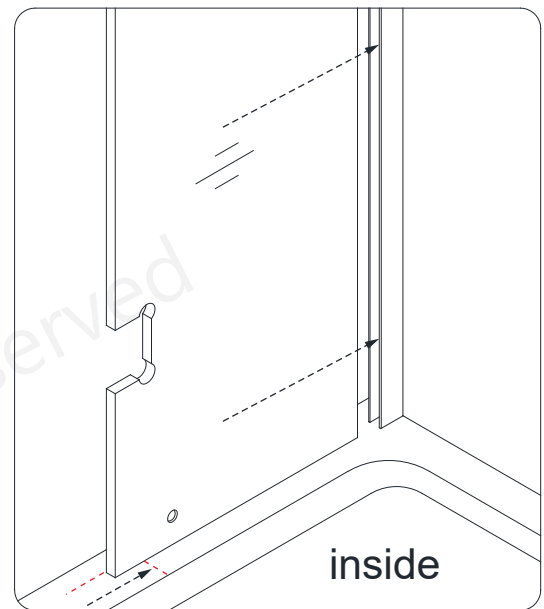

Fig 5a
5. Set the **Hinge Panel Glass (#02)** onto the threshold and into the installed **U-Channel (#01)**. Check for level and plumb. (**Fig 5a / Fig 5b**)